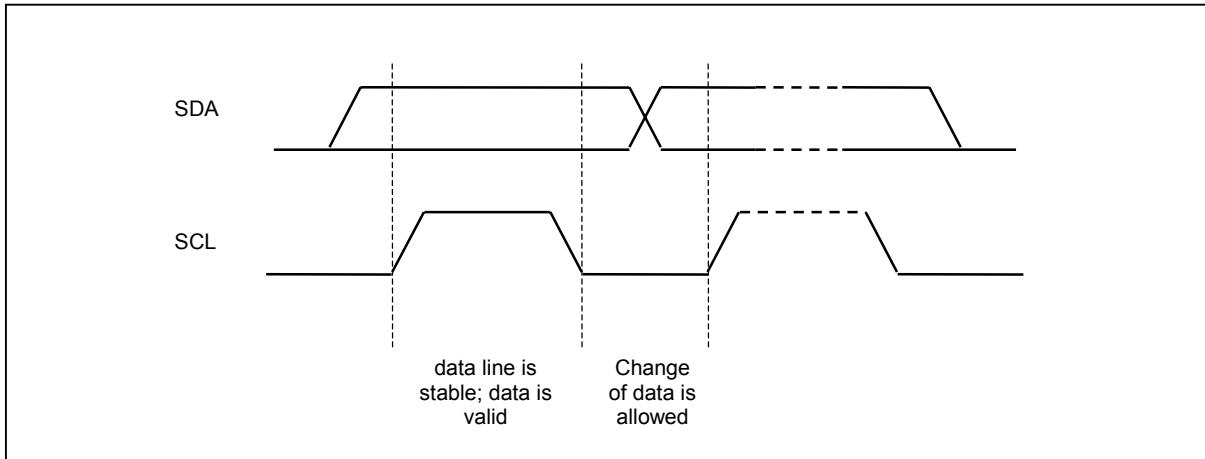

Figure 10 Definition of the data transfer condition
1. The data bit, which is transmitted during each SCL pulse, must keep at a stable state within the "high" period of the clock pulse. Please refer to the figure 10 for graphical representations. Except in start or stop conditions, the data line can be switched only when the SCL is low.